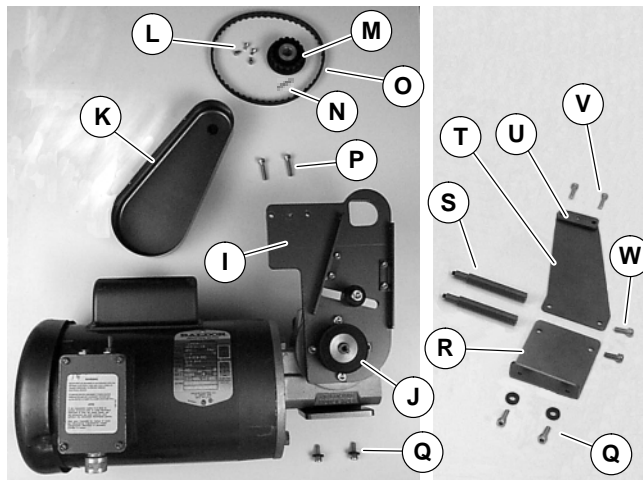

Figure 2
1. Typical components (Figure 2)
NOTE: 2100 and 6100 2" & 3" (44mm & 70mm) and 4100 1" through 6" (25mm – 52mm) conveyors do not include parts R through W of Figure 2.